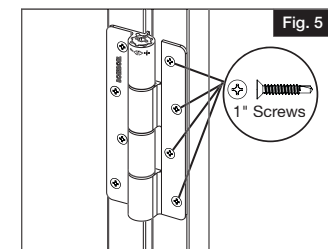

Fig. 5
- Re-position gate on post and secure hinges with 1" screws (Fig. 5).